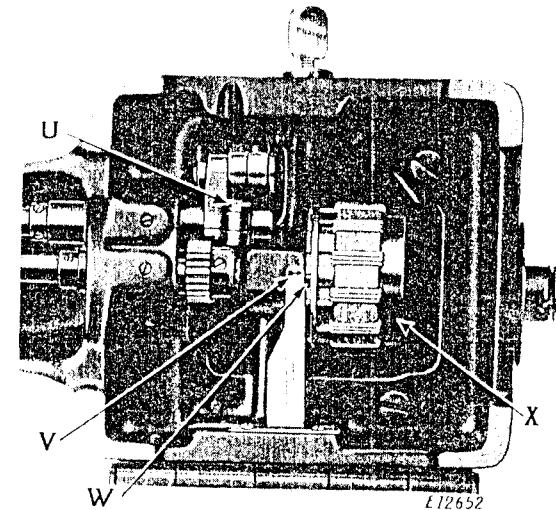

Fig. 23. Putting Belt on Lower Pulley with Belt Replacer 265058
If the feed dog strikes the throat plate, tip the machine back and loosen the pinch screw (U, Fig. 23) of the feed driving rock shaft crank at the end of the rock shaft, then set the feed dog so that it will not strike when the longest stitch is made, and retighten the pinch screw (U).
Owing to the fact that the sewing hook makes two revolutions to one revolution of the hook driving shaft, and that the feed lifting eccentric is on the hook driving shaft, it is possible to have the sewing hook correctly timed without having the feed correctly timed. To overcome this, the plate (V, Fig. 23) is attached to the underside of the bed of the machine. This plate is marked with an arrow at its forward end and directly alongside of the plate, the side of one of the teeth of the belt pulley is marked as shown at W in Fig. 23. When replacing the belt, replace the arm shaft bushing and securely fasten it in position by the screw (L, Fig. 3) at the back of the machine, replace the feed regulating spindle head and the balance wheel and place the belt on the upper pulley, then turn the balance wheel over toward you until the thread take-up lever is at its highest point. Then turn the hook driving shaft with the fingers until the arrow on the plate (V) and the timing mark on the belt pulley (W) are directly in line. Now, without disturbing either the arm shaft or the hook driving shaft, slip the belt over the lower pulley (Fig. 23). The feed will then be correctly timed with the needle bar.
To facilitate the replacing of the belt on the lower pulley, use belt replacer 265058 (X, Fig. 23). Rest the replacer in the
loop of the belt and slide it over the hub of the pulley, as shown in Fig. 23, having the notches in the replacer engage the two set screws in the hub of the pulley. Turn the balance wheel toward you until the belt is fully over the pulley, then remove the replacer.